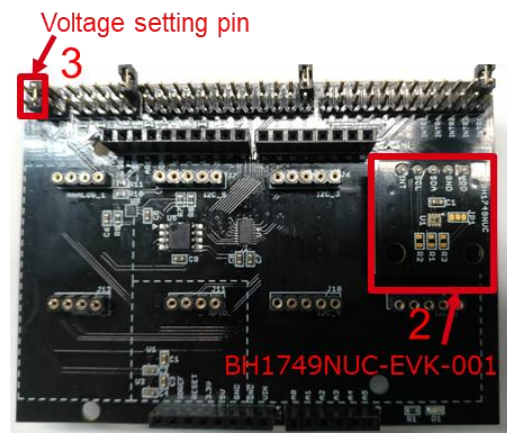

Figure 2. Connection between BH1749NUC-EVK-001 and the SensorShield
2. Connect BH1749NUC-EVK-001 to the socket of I2C area on the SensorShield (Figure 2)
3. Set Voltage of the SensorShield to 3.0V (Figure 2)